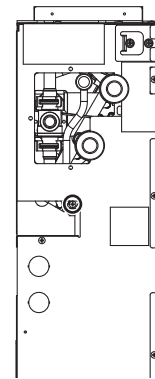

Fig.17
- (1) Remove the fixing screws on the heat exchanger (P) to remove it (Fig.17, 18).